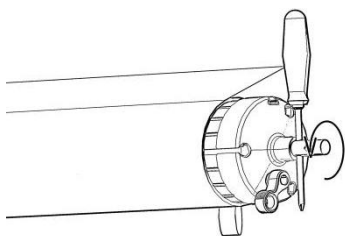

Figure E1
1. Lack of strength in the awning roll tube: Check if the roll tube torsion spring has lost tension. To tighten the roll tube spring, insert a 6mm diameter screwdriver into the steel shaft at the end of the roll tube, apply torque in the direction indicated by the end cap, then insert the safety pin. (Figure E1)